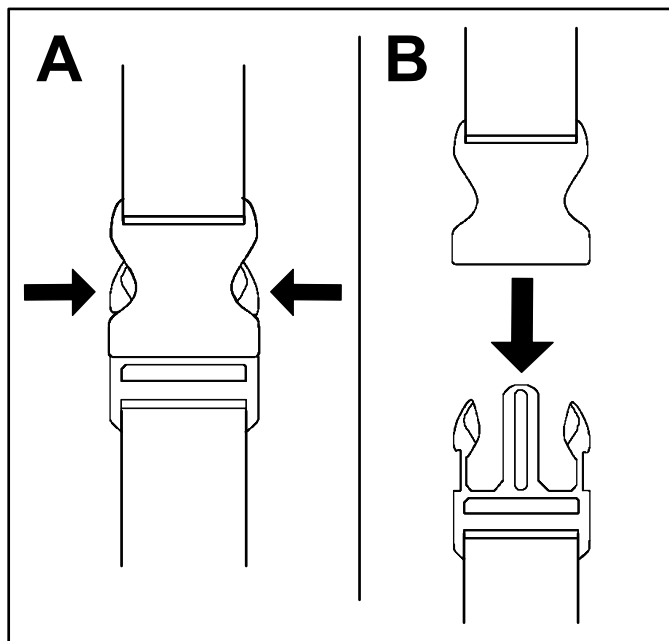

Figure 21
To shut off the blower, disengage the speed lock (if in use) and release the variable-speed trigger (Figure 21).
1. Press in on the sides of the buckles (A of Figure 21).
2. Allow the buckles to disconnect (B of Figure 21).